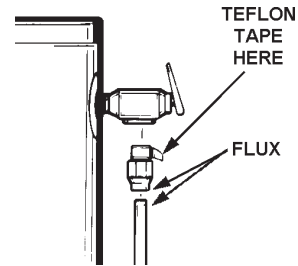

FIGURE 25.
Flux the ends of the length of pipe cut for the T & P line and the inside of the 3/4" male threaded to sweat connector. Then solder this assembly together. Do not screw the connector into the Temperature-Pressure Relief Valve before the assembly is soldered together, see Figure 25.
- Using your pipe wrench, screw the assembly into the Temperature-Pressure Relief valve, see Figure 25.